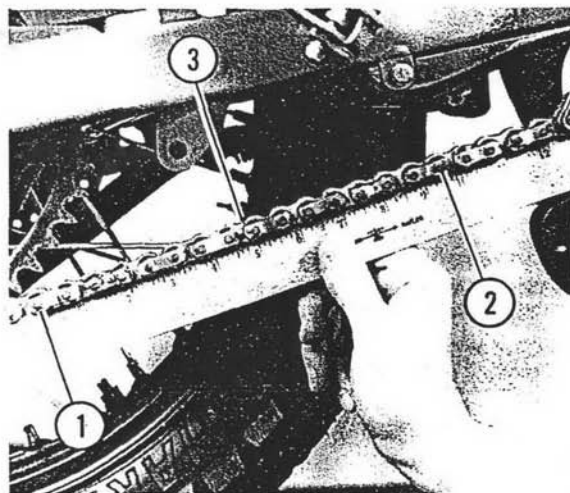

Figure 2-27. Measuring Chain Stretch
2. See Figure 2-27. After adjusting chain free play, measure the length of sixteen pitches (1 to 2) of the chain (3). If this distance is more than 25.9 cm (10-7/32 in.), refer to *Service Manual* and replace chain.